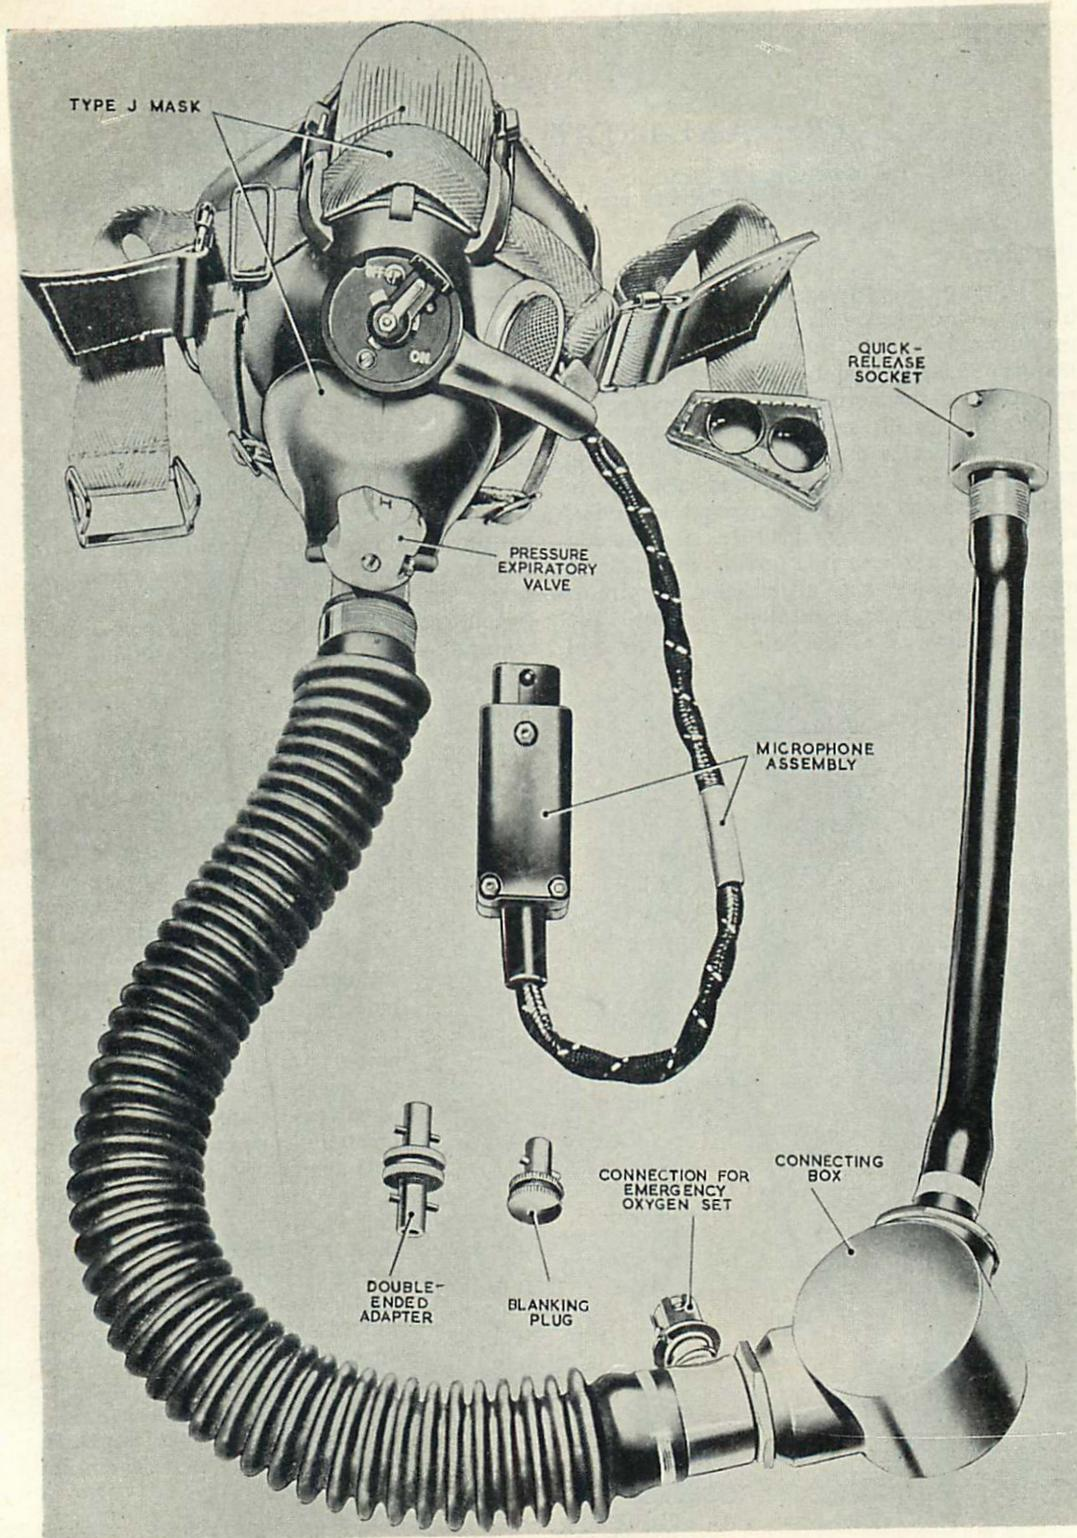

Fig. 2. Oxygen Mask, Type J.
4. The mask illustrated in Fig. 2 is the Type J mask and is made in three sizes. It varies from the Type H mask in the following respects:—
7. The mask tube assembly is integral with the mask and incorporates a T-piece box for connection of the assembly to the pressure waistcoat, a quick-release socket for connection to the oxygen supply, and a three-way piece for connection of an emergency oxygen set. In the T-piece box, oxygen from the regulator passes through two mushroom-type valves to the oxygen mask. It also passes via a spring-loaded valve to the waistcoat. When the T-piece is disconnected at the waistcoat, the spring-loaded valve closes under the action of its spring. When the emergency oxygen set is used the mushroom valves prevent any leak-back from the mask-tube into the waistcoat. Normally, when the wearer inhales, the oxygen supply is taken partly from the waistcoat, and partly from the oxygen supply tube through the mushroom valve. On exhalation the upper mushroom valve becomes seated and pressure builds up until released by the spring-loaded expiratory valve in the mask. When no emergency oxygen set is available, the blanking plug should be in position (Fig. 2). Later types of emergency oxygen sets require the use of the double-ended adaptor.